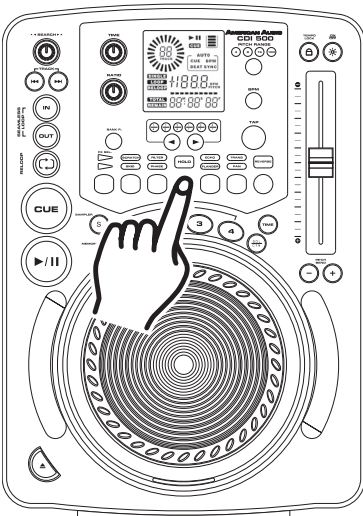

Figure 50
HOLD BUTTON: Use the *HOLD BUTTON (19)* to lock your customized parameters. If the hold button is not activated any changes to your parameters will be momentary. To activate the hold function press the *HOLD BUTTON (19)* as in figure 50. When the hold function becomes activated, the hold button will begin to glow red.